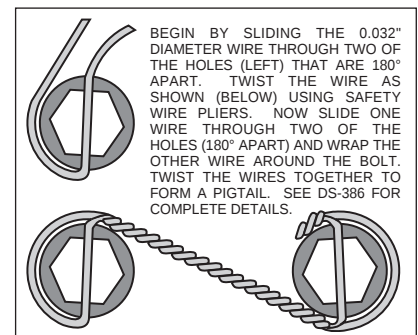

Figure 2. Safety Wire Diagram
- Apply red *Loctite*® 271 to bolt threads (2 and 3) before assembly of the caliper bracket (1) to backing plate face of spindle. Insert the two thicker mounting bolts (3) and the small mounting bolt (2) through the caliper mounting bracket (1). Position the caliper mounting bracket (1) onto the spindle, slipping each of the three mounting bolts (2 and 3) into the threaded spindle holes, finger tighten. Torque two bolts (3) to 77 ft-lb. Torque bolt (2) to 180 in-lb. **NOTE:** Be sure the heads of the caliper bracket (1) insert nuts are facing outward toward the wheel.
- Install five new wheel studs (4) into the hub (5). Torque to 77 ft-lb. **NOTE:** There are two five lug patterns in the hub (5 x 4.00 and 5 x 4.50). Make sure of the correct hole pattern for the correct wheel application before installing studs into hub.
- Pack the large inner bearing cone (6) with high temperature disc brake bearing grease (available from your local auto parts store) and install into the backside of the hub (5).
- Install the grease seal (7) by pressing into the backside of the hub (5).
- Attach rotor adapter (8) to rotor (9) using six bolts (10). Torque bolts (10) to 180 in-lb. Safety wire bolts (10) using standard 0.032 inch diameter stainless steel safety wire as shown in Figure 2. Please refer to Wilwood's data sheet DS-386 (available at www.wilwood.com/pdf/ds386.pdf) for complete safety wire installation instructions. **NOTE:** The flat side of the rotor (9) lugs face toward the rotor adapter (8) with the dished side of the rotor adapter (8) facing away from the rotor (9).
- Mount the adapter/rotor assembly (8 and 9) to the hub (5) using six flat washers (11) and six bolts (12). Torque bolts (12) to 22 ft-lb. Safety wire bolts (12).
- Pack the small outer bearing cone (13) with high temperature disc brake bearing grease. Lightly coat the spindle bearing surfaces with bearing grease. Slide the hub/rotor assembly (5 and 9) with outer bearing cone (13) onto the spindle. Secure using spindle washer (14), existing adjusting nut and nut locking device.